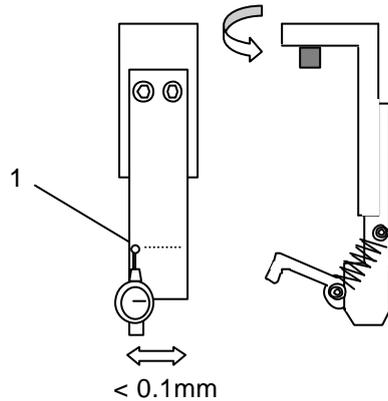

Figure 40
- c. Align bracket (1) parallel to the D-axis by adjusting the bracket as shown in fig. 40.